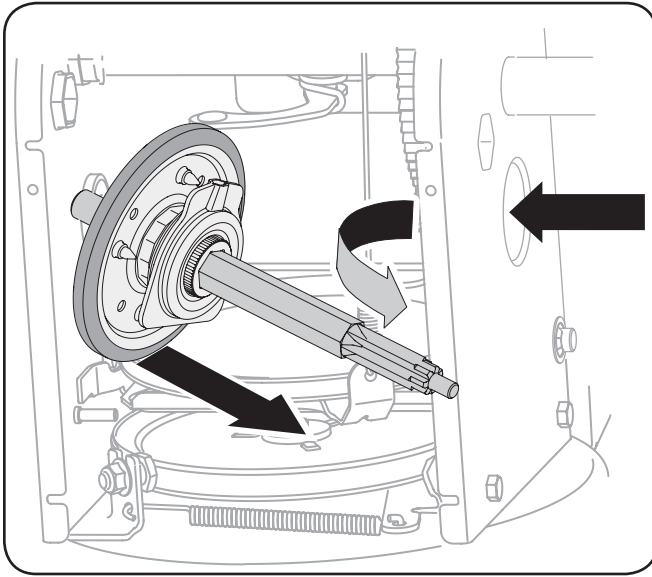

Figure 7-11
6. Carefully position the hex shaft downward and to the left before carefully sliding the friction wheel assembly off the shaft. See Fig. 7-11.